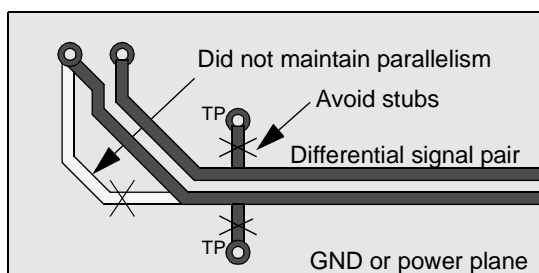

Figure 19. Differential signal pair
- The MDI pairs are suggested to be routed close together in parallel to reduce EMI emission and common mode noise (Figure 19).